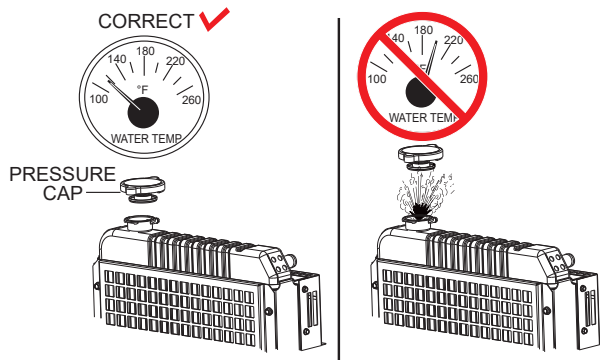

Figure 73. Radiator Pressure Cap Removal
1. Remove the radiator pressure cap (Figure 73) only if the coolant temperature is below 120°F (50°C).